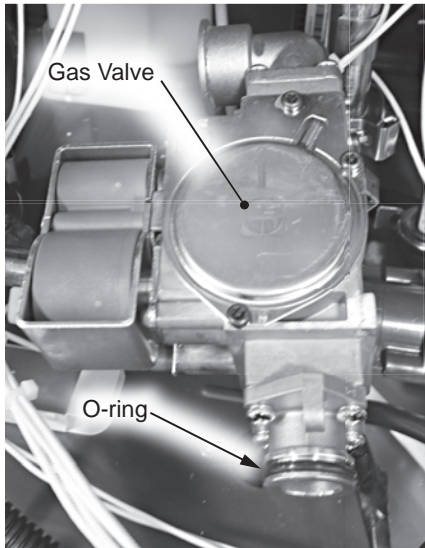

Figure 65 - Gas valve o-ring
- 14 Locate the new O-ring included in the kit, install it as shown in Figure 65.